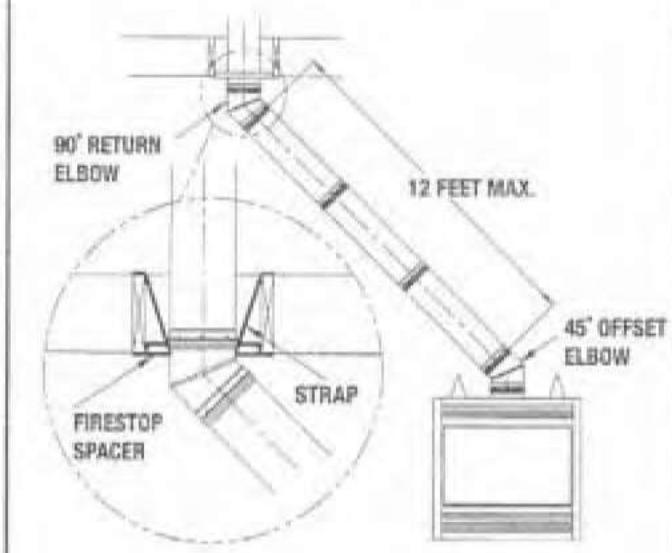

FIGURE 4-7
The maximum number of elbows used for vertical and horizontal installation, must not exceed three (3) 90° and one (1) 45°. This configuration permits up to 30' vertical rise with a maximum 12' horizontal run. Figure 4-7 illustrates an example of this configuration.
- The chimney weight above the offset section rests on the return elbow. The straps provided with the elbow must be secured to the rafters or joists with nails or screws. Refer to figure 4-7.
- The maximum length of pipe between supports (return elbow or chimney pipe support) is 12 feet of angled run. There is a maximum of two (2) 12 ft. angled run sections allowed per chimney system.